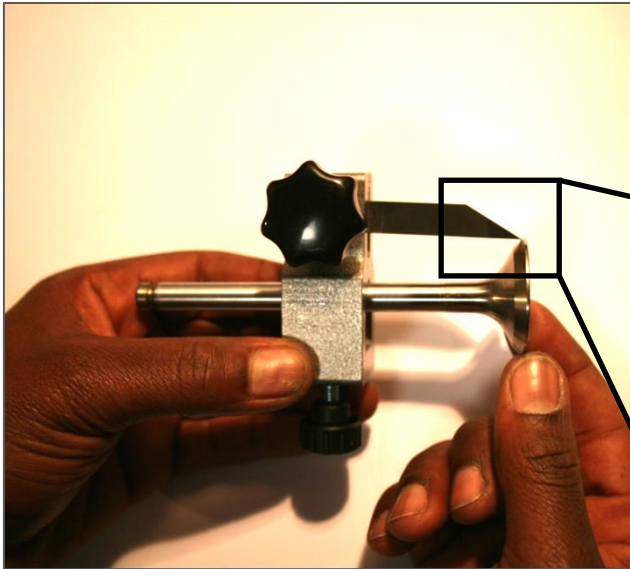

Fig. 13
9. The tip of the adjusting tongue must now be placed in the upper quarter of the valve head just like Fig. 13. Carefully but firmly fix and tighten the valve with the knurled head screw as well as the adjusting tongue with the star grip handle.
Check if the adjusting tongue is placed as in Fig. 13 showed